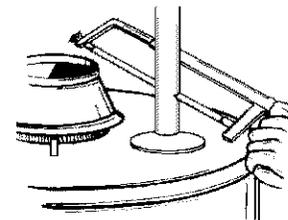

FIGURE 6.
- 6 If you have copper piping to the water heater, the two copper water pipes can be cut with a hacksaw approximately four inches away from where they connect to the water heater, see Figure 6. This will avoid cutting off pipes too short. Additional cuts can be made later if necessary. Disconnect the temperature-pressure relief valve drain line. When the water heater is drained, disconnect the hose from the drain valve. Close the drain valve. The water heater is now completely disconnected and ready to be removed.